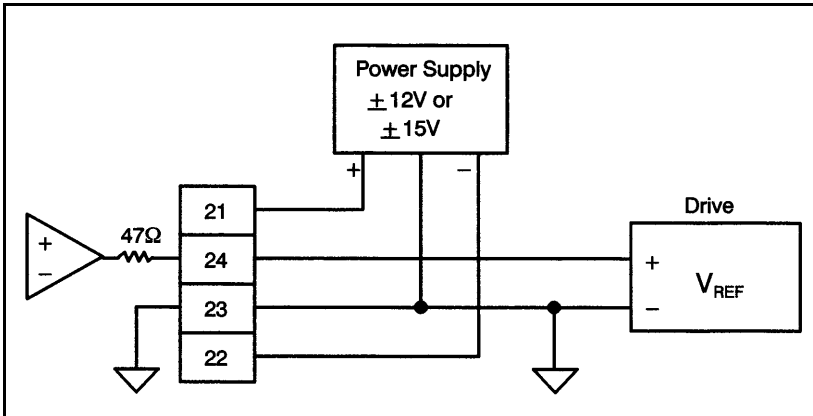

Figure 3.6 – Typical Drive Reference/Voltage Reference Connections with External P/S
In order to provide a current or velocity reference to the servo drive panel, each axis on the module contains a voltage output. The voltage output has a range of  $\pm 10$  Volts and requires an externally mounted  $\pm 12$  or  $\pm 15$  volt power supply. The voltage output is separately isolated for each channel. Refer to figure 3.6 for a typical output circuit and isolated power supply connections
- Step 10. Fasten the field wires from the drive reference and power supply to the terminal strip. Typical field connections are shown in figure 3.6 and 3.7.